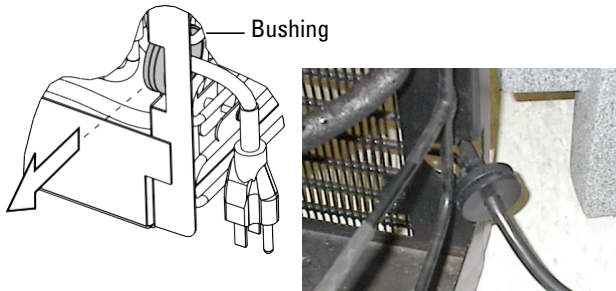

Figure 20: Remove line cord from module
- a. Slide the bushing sideways away from the refrigeration module until it is free. (Figure 20). Avoid bending the refrigeration tubing.